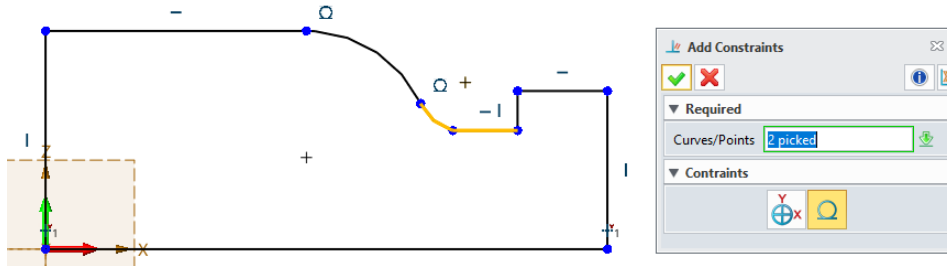

Figure 75 Adding Proper Constraints
STEP 06 Use the **Add Constraints** command to add proper constraints one by one. As shown in Figure 75, you can easily add tangent constraints to the arcs and lines.